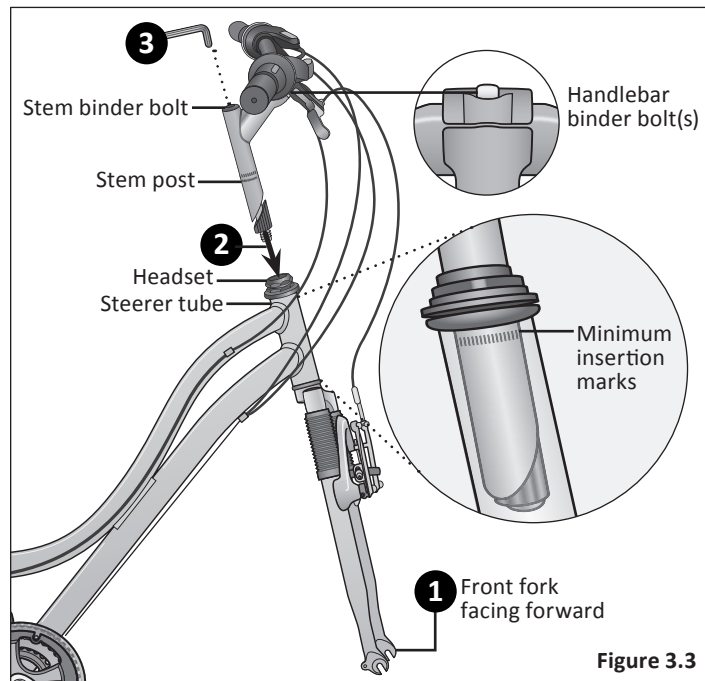

Figure 3.3
- 1 Turn the front fork to face forward. **Figure 3.3**
- ❶ Turn the front fork to face forward (i.e. the fork dropout is in the furthest forward position). **Figure 3.3**